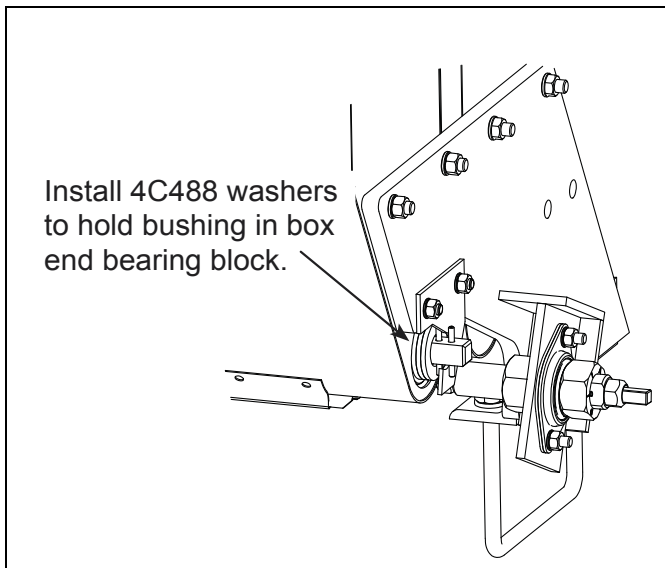

Figure 2-34: Box End Bearing
5. Install 4C488 washers to hold the bushing. See Figure 2-34.